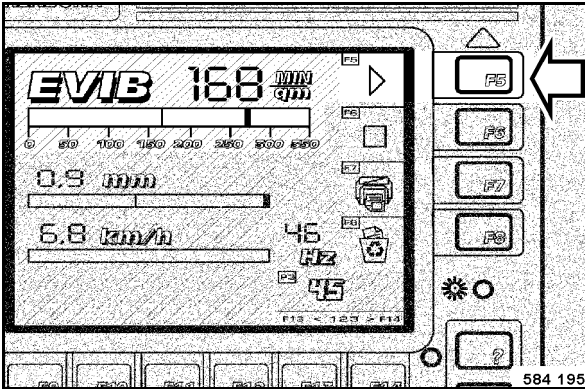

Fig. 90
- Control field F5 (Fig. 90) lights green.